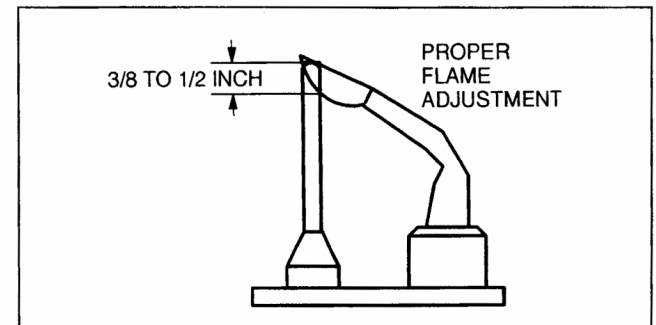

Fig. 16
7. Observe the pilot flame through hole in the burner assembly plate. The flame should envelop the thermocouple 3/8 – 1/2 inch, fig. 16. If the pilot flame is satisfactory then go to step 8. If the pilot flame is too small or too large, adjust the pilot using the pilot adjustment cover screw, fig. 16. Turn the inner adjustment screw clockwise ↻ to decrease, or counterclockwise ↺ to increase the pilot flame. After adjustment, replace the cover screw and tighten firmly.